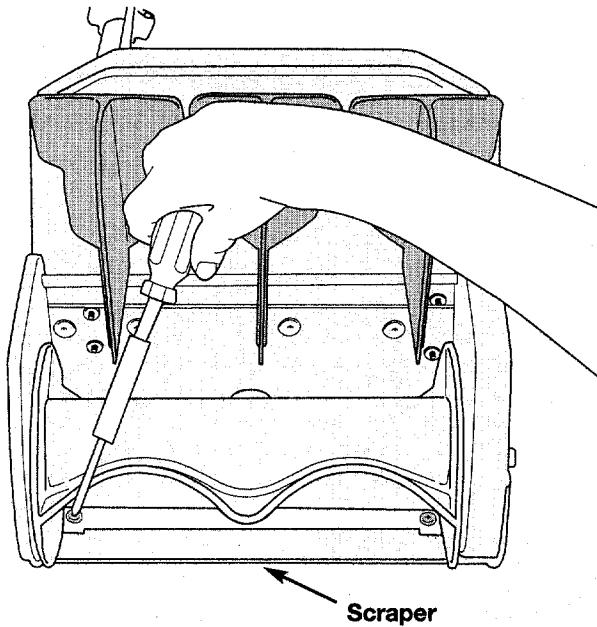

Fig. 9
1. Place snow thrower on the ground or on work bench. Position unit so vanes and rotor are facing up (Fig. 9).
2. Beneath the rotor, locate and remove the three (3) screws securing the scraper to the housing using a #T20 Torx bit or flat blade screwdriver (Fig. 9).
4. Reinstall the three (3) screws to secure new scraper to the unit. Torque the screws to 25-30 in•lb (2.8-3.3 N•m).